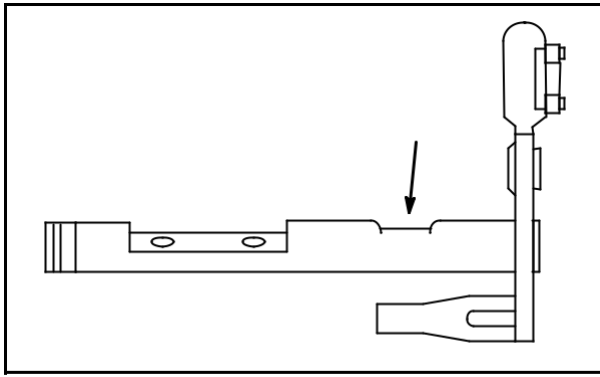

Fig. 42
Inspect throttle shaft and choke shaft for wear (2), **Fig. 42.**